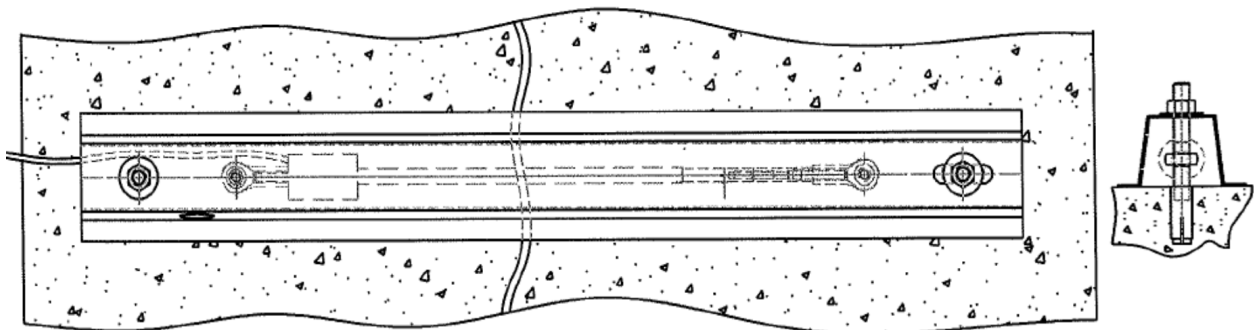

Figure 7 - Typical Cover Plate Installation
- 3) Install washers, then nuts. Avoid excessive force while tightening the cover retaining nuts. See Figure 7 for a diagram of the completed assembly.